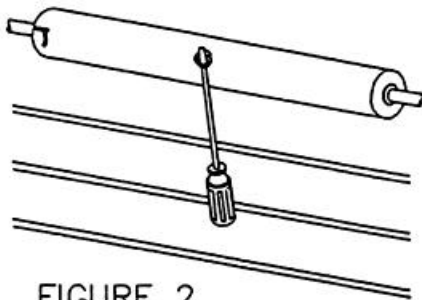

FIGURE 2
3. With tension on large tube, insert screwdriver into washer. SLOWLY let tube unwind a little so screwdriver handle rests against closed door (see Figure 2). This holds tube in wound position.